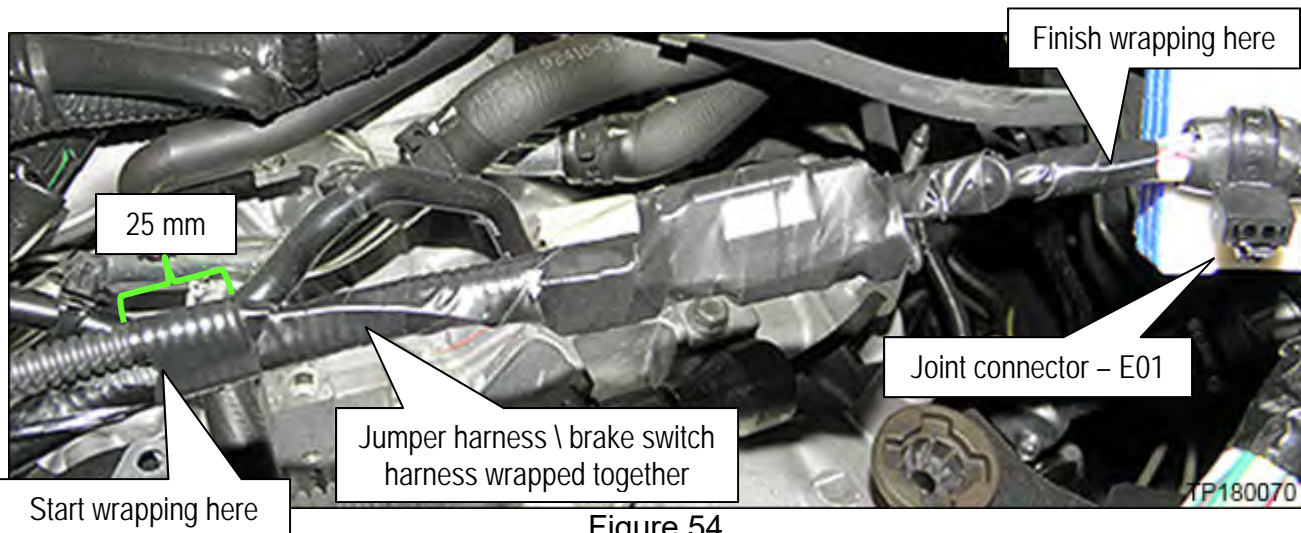

Figure 54
59. Starting at the point shown in Figure 54 wrap the jumper harness and brake switch harness together with black electrical tape as follows:
- a. Start the wrap approximately 25 mm (1 inch) below where the two (2) corrugated harness protectors of the jumper harness and brake switch harness come together.